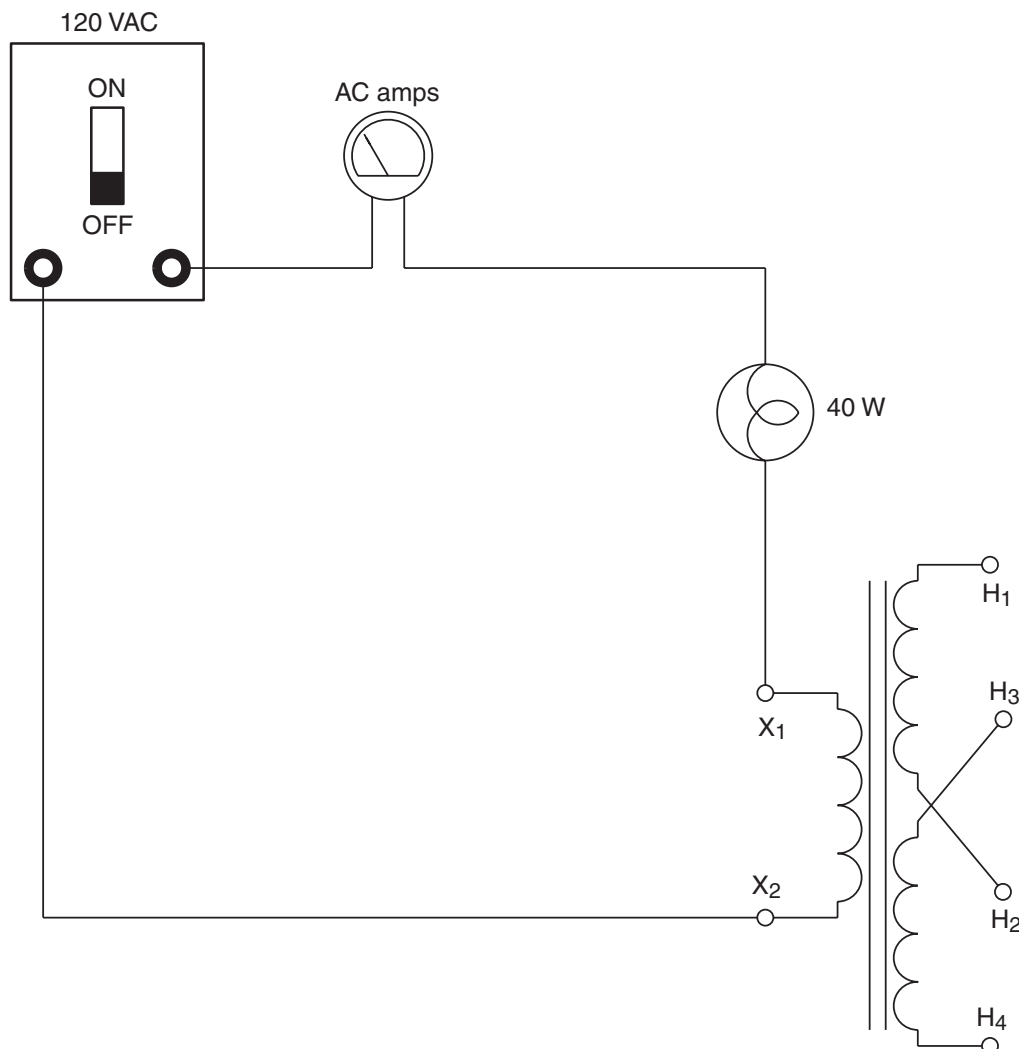

Figure 11-6 Connecting an RL series circuit.
1. Connect the circuit shown in Figure 11-6. Note: During this experiment the H terminals of the transformer will provide a step-up in voltage. Be careful not to come in contact with these terminals.